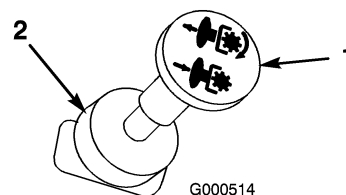

Figure 10
- Pull out on the PTO switch to engage it (Figure 10).
Push the PTO switch to Off (Figure 10).